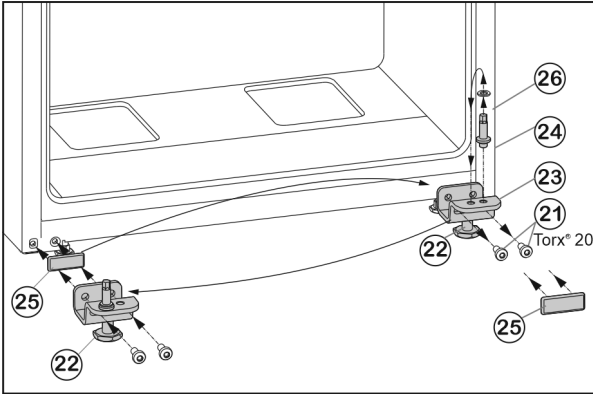

Fig. 7
- ▶ Unscrew fastening screws *Fig. 7 (21)*.
- ▶ Remove the lower bearing block *Fig. 7 (23)*, complete with bearing bolt *Fig. 7 (24)*, washer *Fig. 7 (26)* and adjustable foot *Fig. 7 (22)*.
- ▶ Unscrew the bearing bolt *Fig. 7 (24)*, complete with washer *Fig. 7 (26)*, re-locate it into the mounting hole on the opposite side of the bearing block and tighten again.
- ▶ Carefully remove the cover plate *Fig. 7 (25)* and re-locate it to the other side.
- ▶ Screw on the lower bearing block *Fig. 7 (23)*, complete with bearing bolt *Fig. 7 (24)*, washer *Fig. 7 (26)* and adjustable foot *Fig. 7 (22)* to the new hinge side, with the help of a cordless screwdriver if necessary, and **tighten (with 4 Nm)** once again.
- ▶ Lower the door from above onto the bearing bolt *Fig. 7 (24)*.
- ▶ Unscrew the adjustable foot *Fig. 7 (22)* on the lower bearing block *Fig. 7 (23)* until it touches the floor.